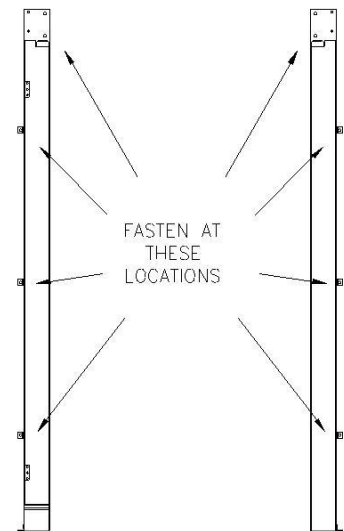

FIG. 2C
b. **Fasten top of Side Frames to wall or surface using holes in mounting angles (Figure 2c).**